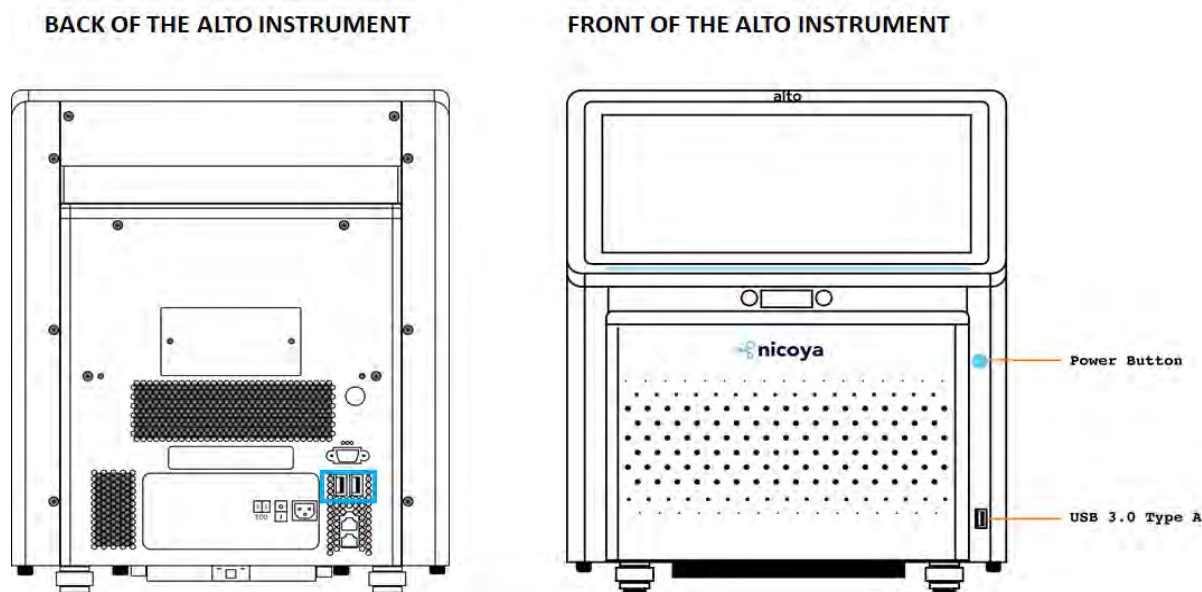

Figure 4.20: Location of two USB ports in the back of the instrument and one USB port in the front of the instrument.
1. There are three USB 3.0 Type A ports available on the instrument. Two USB ports are available on the back of the instrument (Figure 4.20) and one USB port is available on the front of the instrument.